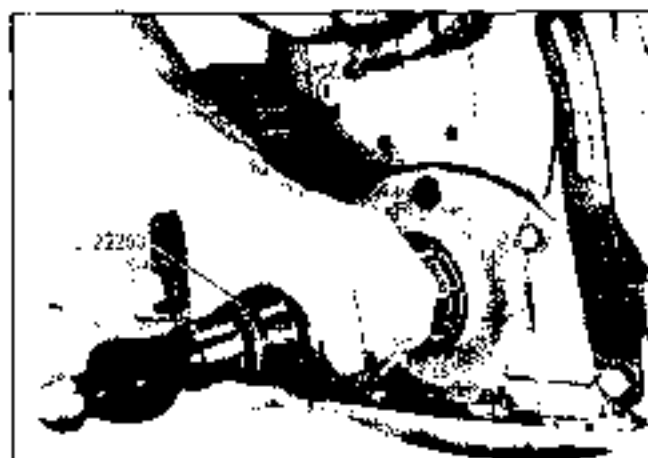

Fig. 6-34 Installing Crankshaft Front Seal
1. Install new seal with lip of seal inward using seal installer J 22260 (Fig. 6-34).